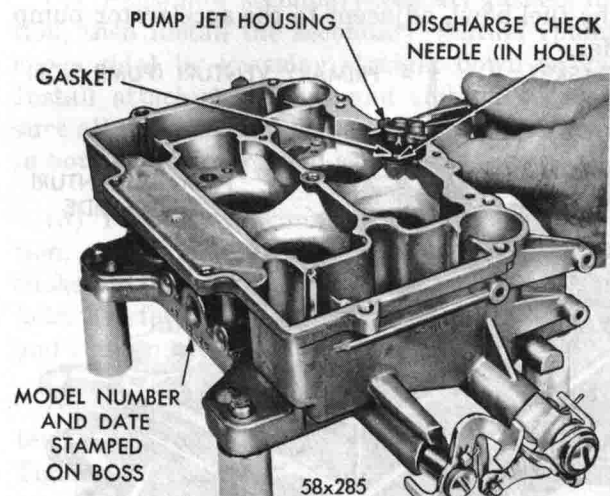

Fig. 24—Removing or Installing Accelerator Pump Jet Housing
(1) Remove the screws that attach the accelerator pump jet housing to the main body. Lift out the jet housing and gasket, as shown in Figure 24. Discard the gasket. Now, invert the main body and drop out the discharge check needle from the discharge passage.